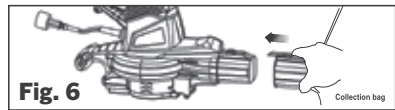

Fig. 6
1. Attach the push on collection bag connector to the outlet tube of the housing. Push the fitting of the collection bag directly onto the outlet until it “clicks” into position as shown in (Fig. 6).